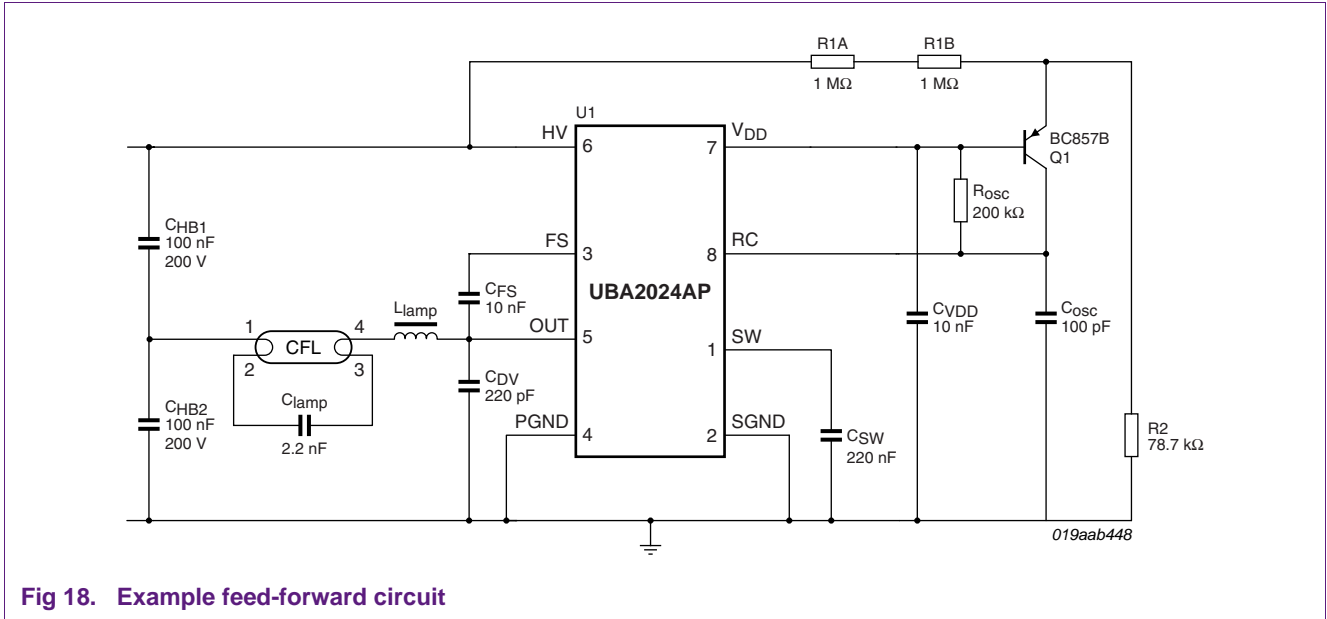

Fig 18. Example feed-forward circuit
Feed-forward can easily be applied via the additional circuit R1, R2 and Q1 as shown in Figure 18. The system should be designed so that the feed-forward circuit does not inject current in C_{OSC} at the typical operating point of the lamp. In a 230 V (AC) mains system, the circuit should not operate at a voltage below $\sqrt{2} \times 230 \text{ V (AC)} = 325 \text{ V}$. This circuit starts to inject current in the oscillator capacitor when V_{HV} equals:
In the example of Figure 18 this yields: